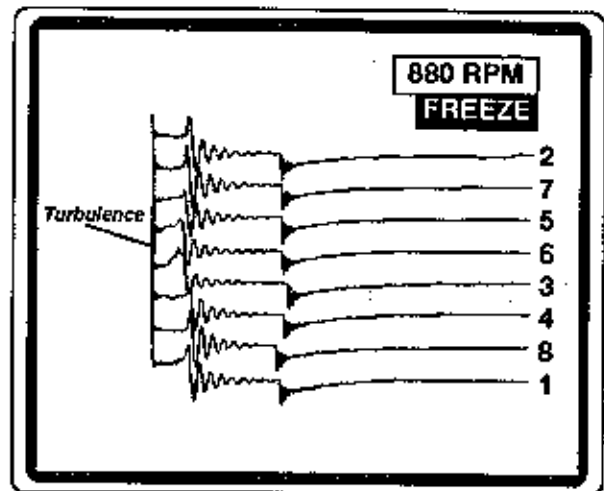

Figure 182
**Rising Sparklines (See Figure 182)**